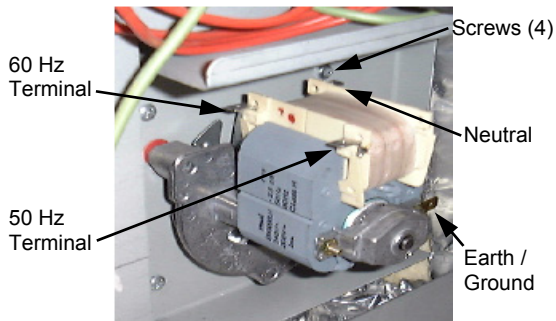

Figure 6.3.23
- 5) Ensure wire connections are correct to the voltage supply—60 Hz / 50 Hz (fig 6.3.23)